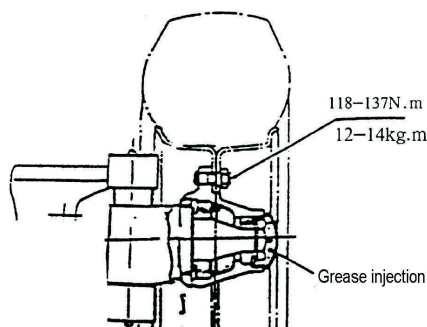

Fig. 3-6 Pre Tightening Load Adjustment
- (1) As shown in Fig. 3-6, apply grease to the hub, inner and outer bearings, and the inner cavity of the hub cover, and also apply some grease to the oil seal lip;
- (2) Fix the outer ring of the bearing on the hub and install the hub on the steering shaft;
- (3) Install the flat washer and tighten the castellated nut with a torque of 206-235N. m (21-24 kg. m). Loosen the castellated nut and then tighten the nut with a torque of 9.8N. m (1 kg. m);
- (4) Knock the wheel hub gently with a wooden hammer and rotate the wheel hub for 3-4 turns to ensure that the wheel hub is not loose;
- (5) Tighten the slot nut to align the slot with the split pin hole on the steering knuckle;
- (6) Knock the wheel hub gently with a wooden hammer, rotate the wheel hub for 3-4 turns by hand to ensure smooth rotation, and measure the rotational torque of the wheel hub, which is 2.94-7.8N. m (0.3-0.8kg. m);
- (7) When the rotating torque is higher than the specified value, it can be returned for 1/6 circle and then measured;
- (8) When the specified turning torque is reached, lock the castellated nut with a cotter pin.